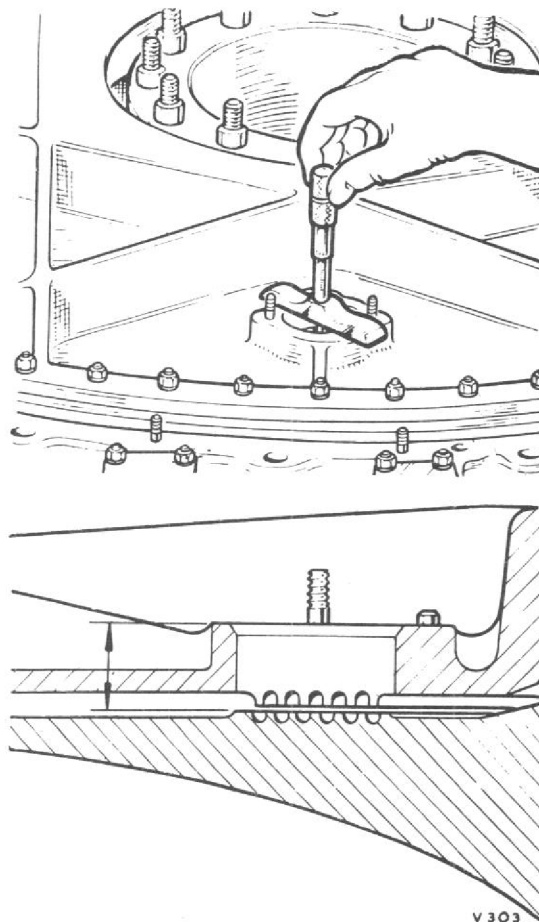

Fig. 8. Measuring the depth from the sealing plate to the impeller
- (2) Check the length at several positions round the cover and determine the mean length.
- (3) Using a depth micrometer, measure the depth from the flange of the inspection cover aperture in the sealing plate to the crest of the labyrinth grooves on the impeller (fig. 8).